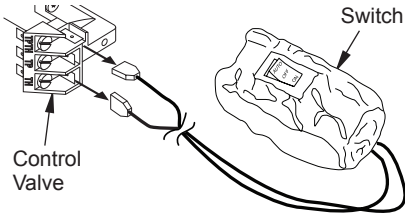

Figure 19- Disconnecting Switch from Control Valve
6. If installed, disconnect AUTO/OFF/ON switch wire from control valve at TPTH and TH locations (see Figure 19, page 17).
7. Connect wires from hardware pack (with remote receiver bracket) to control valve at the TPTH and TH locations as shown in Figure 19, page 17. Connect other ends of these wires to remote receiver wires.